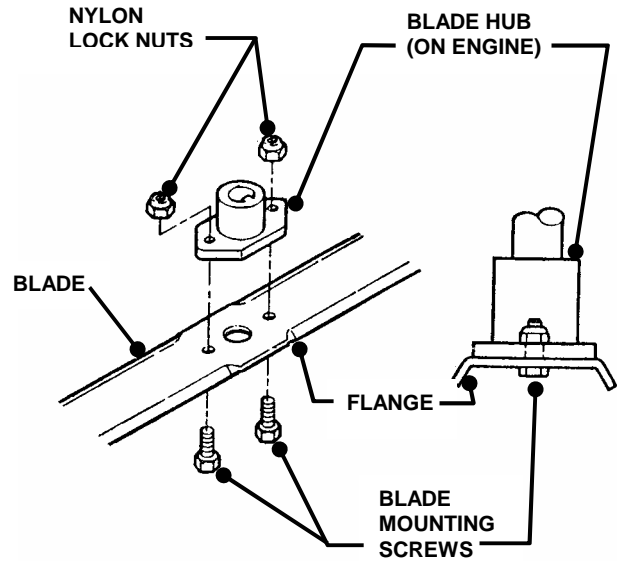

FIGURE 4.2
3. Remove blade. See Figure 4.2.
6. Reinstall blade. See Figures 4.2 & 4.3. Check torque of blade retaining cap screw. Recommended torque should be 40 ft. lbs.